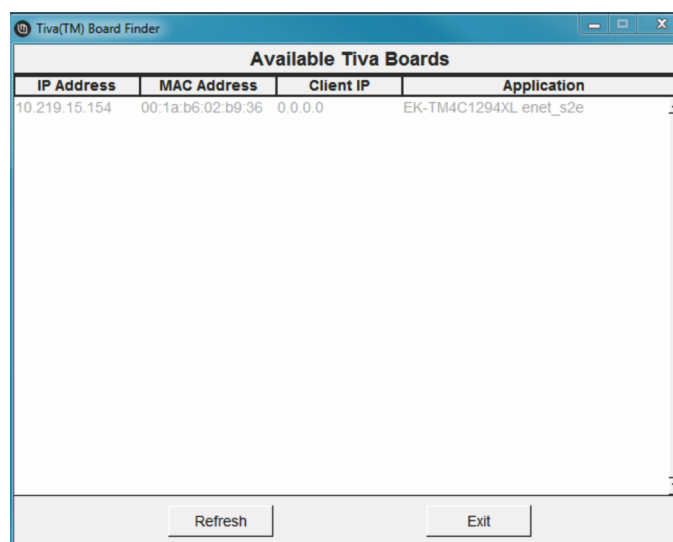

Figure 3. Finder Utility Displays the Boards Available on the Network
3. Double click on the *finder.exe* file. When the Finder utility starts, you should see the S2E module in the list of *Available Tiva Boards*, as shown in Figure 3.